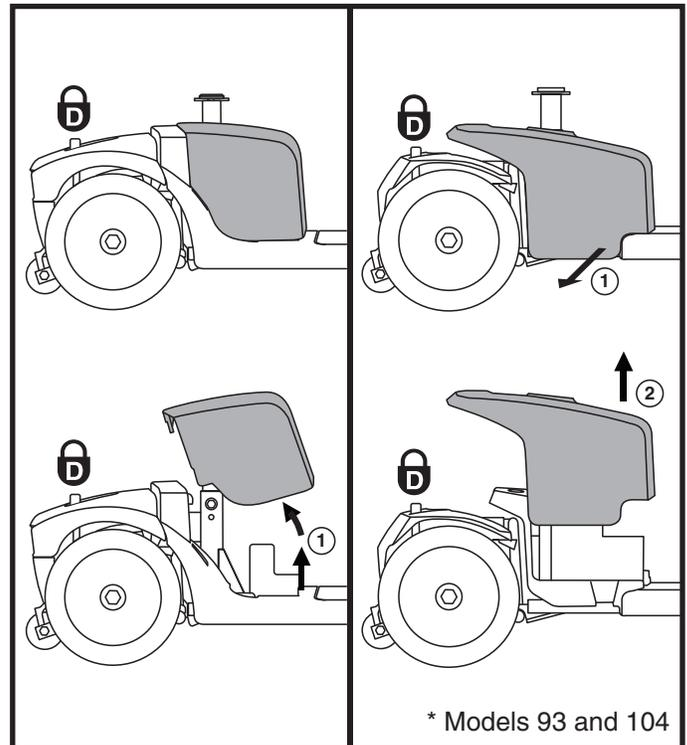

Figure 13. Battery Shroud Removal/Installation
1. Remove the seat and battery shroud. See figure 13.